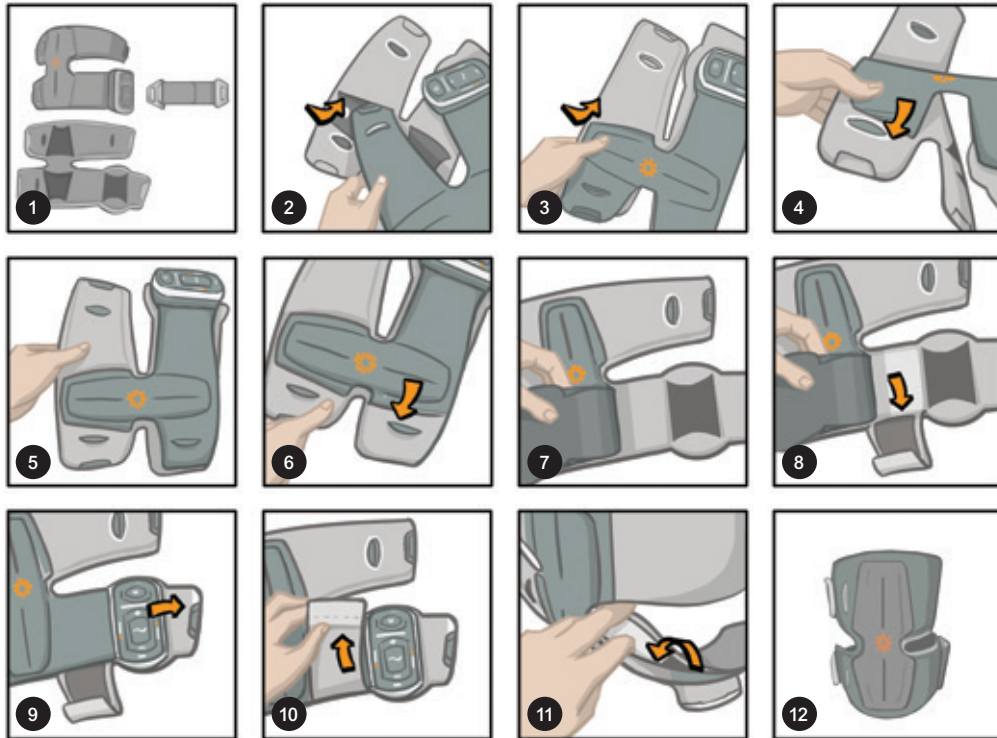

Figure 8-15: Attaching the Home Use Thigh Cuff Cover
1. Insert the upper thigh FS Cuff panel into the cover first and then attach the Velcro pocket around the bottom panel. See Figure 8-15.